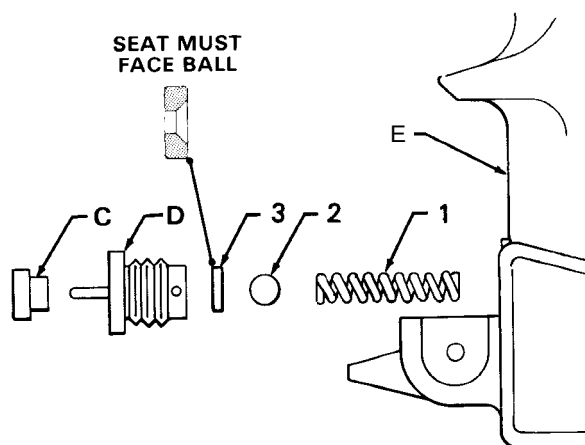

Fig 4
11. Grease the seat (3) and place it on the fluid housing so the seat which is formed on the inside diameter faces out. See Fig 4.